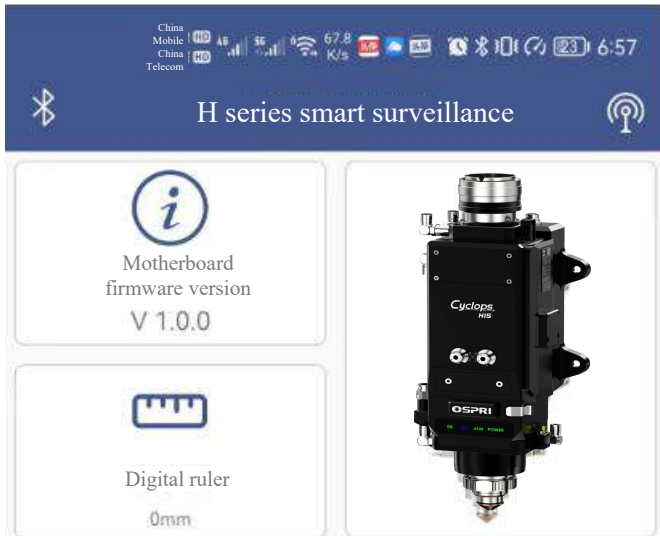

Figure 2.7
- ① Click the Bluetooth icon to open the Bluetooth connection interface, as shown in Figure 2.7.